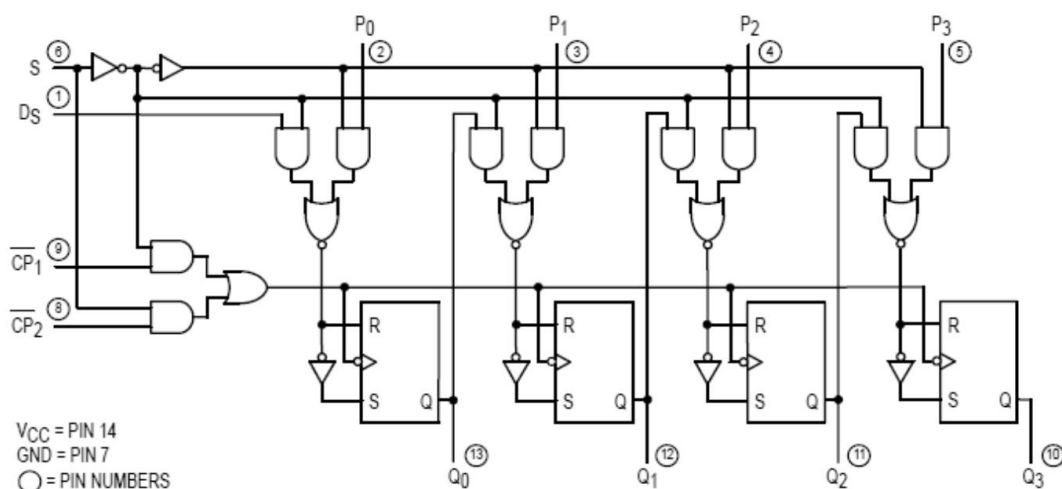

Figure 1- 4 bit universal shift register using IC7495A /B
3. Make the connections as per the logic diagram given in figure1.